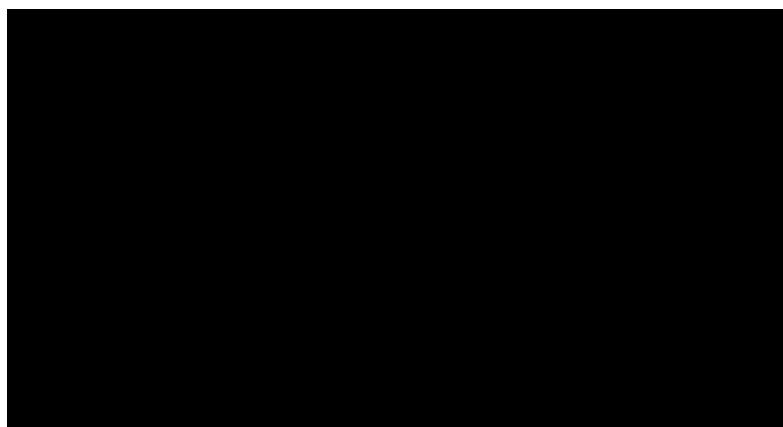

Fig.20
**Important:** the summer offset can increase or decrease St1 depending on the value given to C4 (positive or negative). Fig. 20 shows how the summer offset operates: